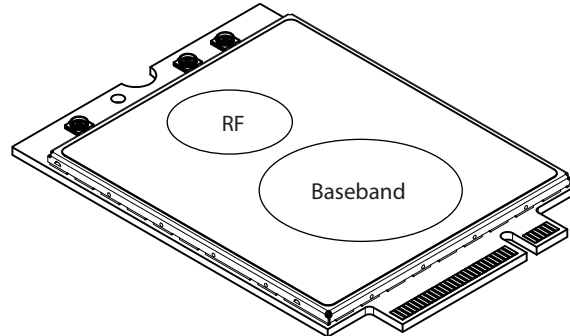

Figure 7-4: Shield locations (Top view)
Specific areas requiring heat dissipation are shown in Figure 7-4:
- Monitor temperature at all shield locations. Attach thermocouples to the areas indicated in Figure 7-4 on page 64 (RF, Baseband).